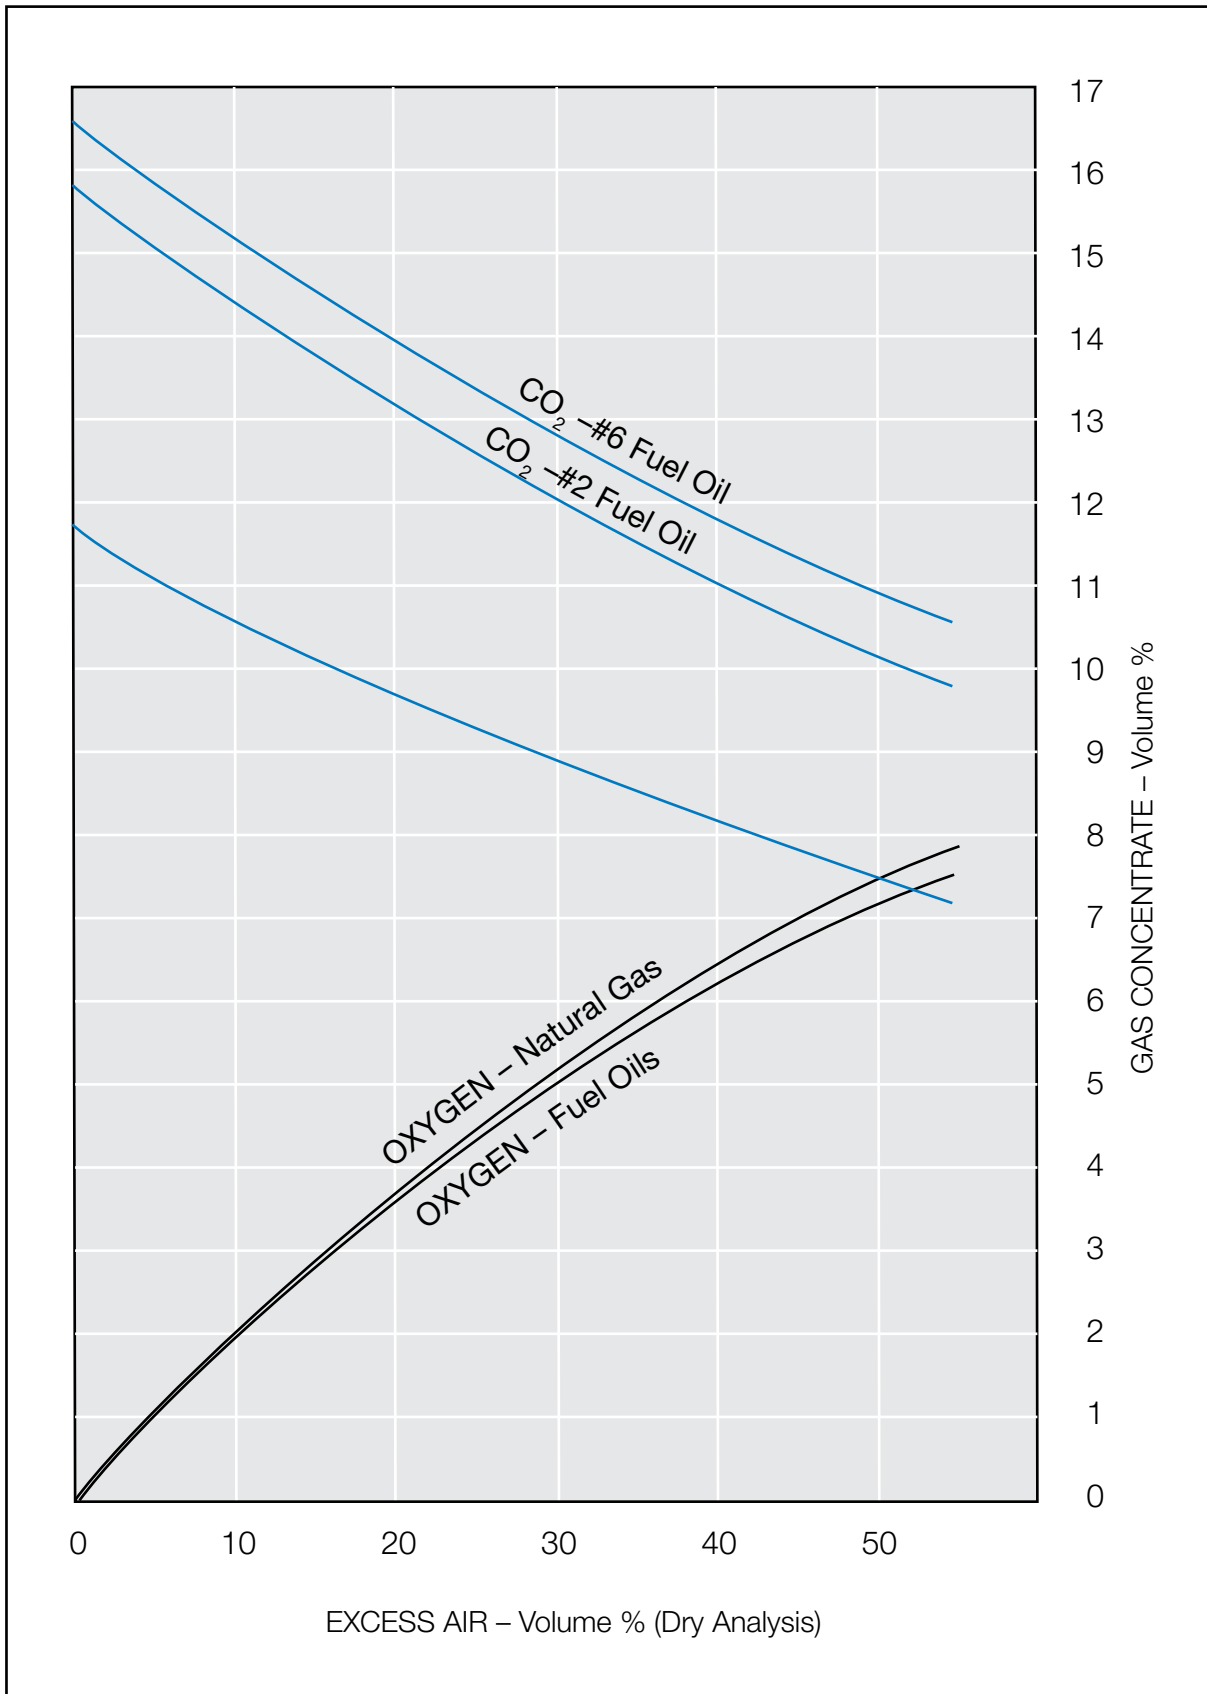

figure 5
2. Determine the CO2 level of the boiler. (If excess air as O2 is available, O2 can be converted to CO2 using figure 5.)